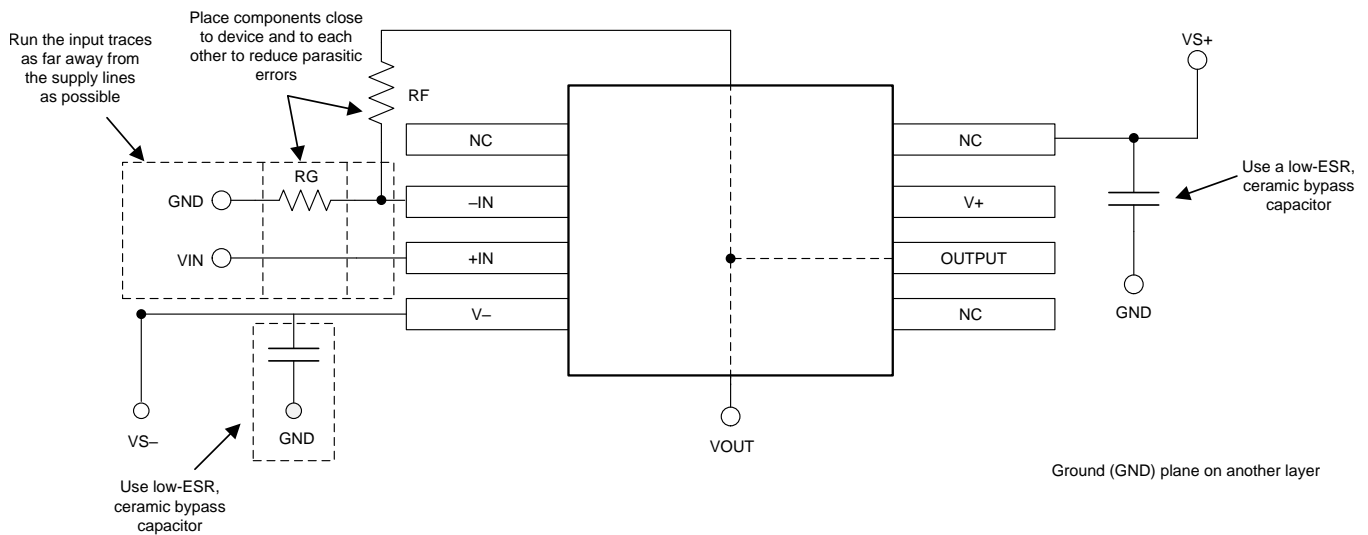

Figure 34. Op Amp Board Layout for a Noninverting Configuration
- Place the external components as close to the device as possible. As illustrated in Figure 34, keeping R_F and R_G close to the inverting input minimizes parasitic capacitance.